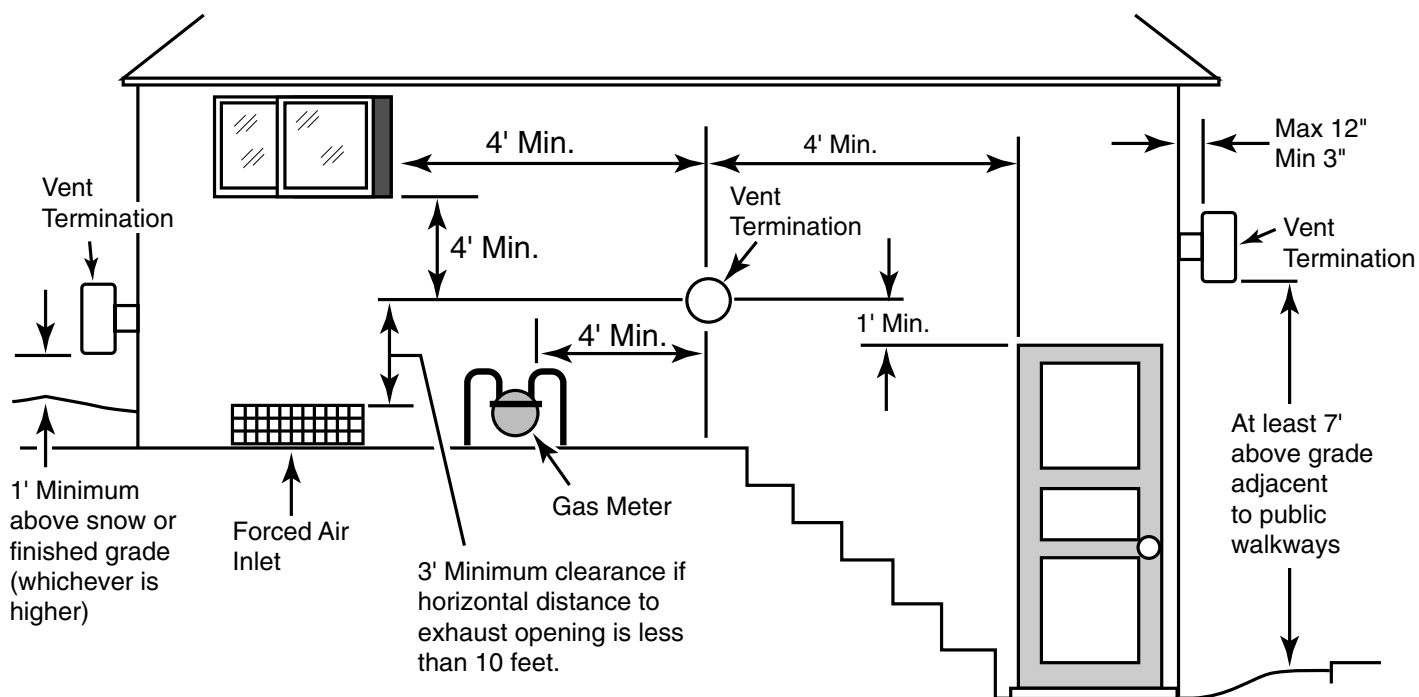

FIGURE 13: Minimum exhaust vent clearances. Local codes may differ - consult local code officials.
(See Figures 13 and 14)
7. Vent Termination – Horizontal (See Table 7). Use a listed wall thimble and vent terminal from Table 7. The terminal must be located (see Figure 13):